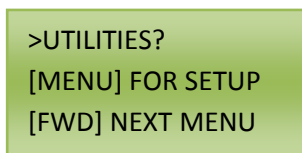

Figure 5.1
1. To test that the Time-Keeper®, Relay Firing Cards, and Relays are communicating press MENU once. Press FWD until the LCD screen says, “>UTILITIES?” Press ENTER once. See Figure 5.1 for a visual example.